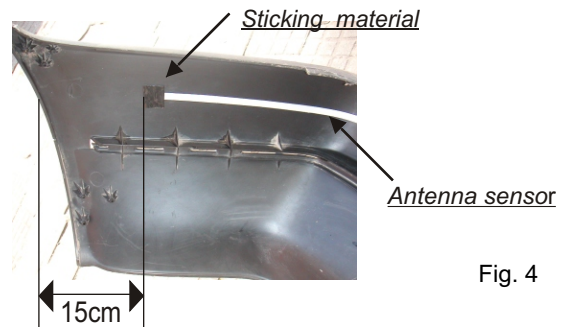

Fig. 4
**NOTE: 1) It is advisably to start and finish the application of the antenna sensor tape at about 15 cm from the both end of the bumper (Fig. 4).**